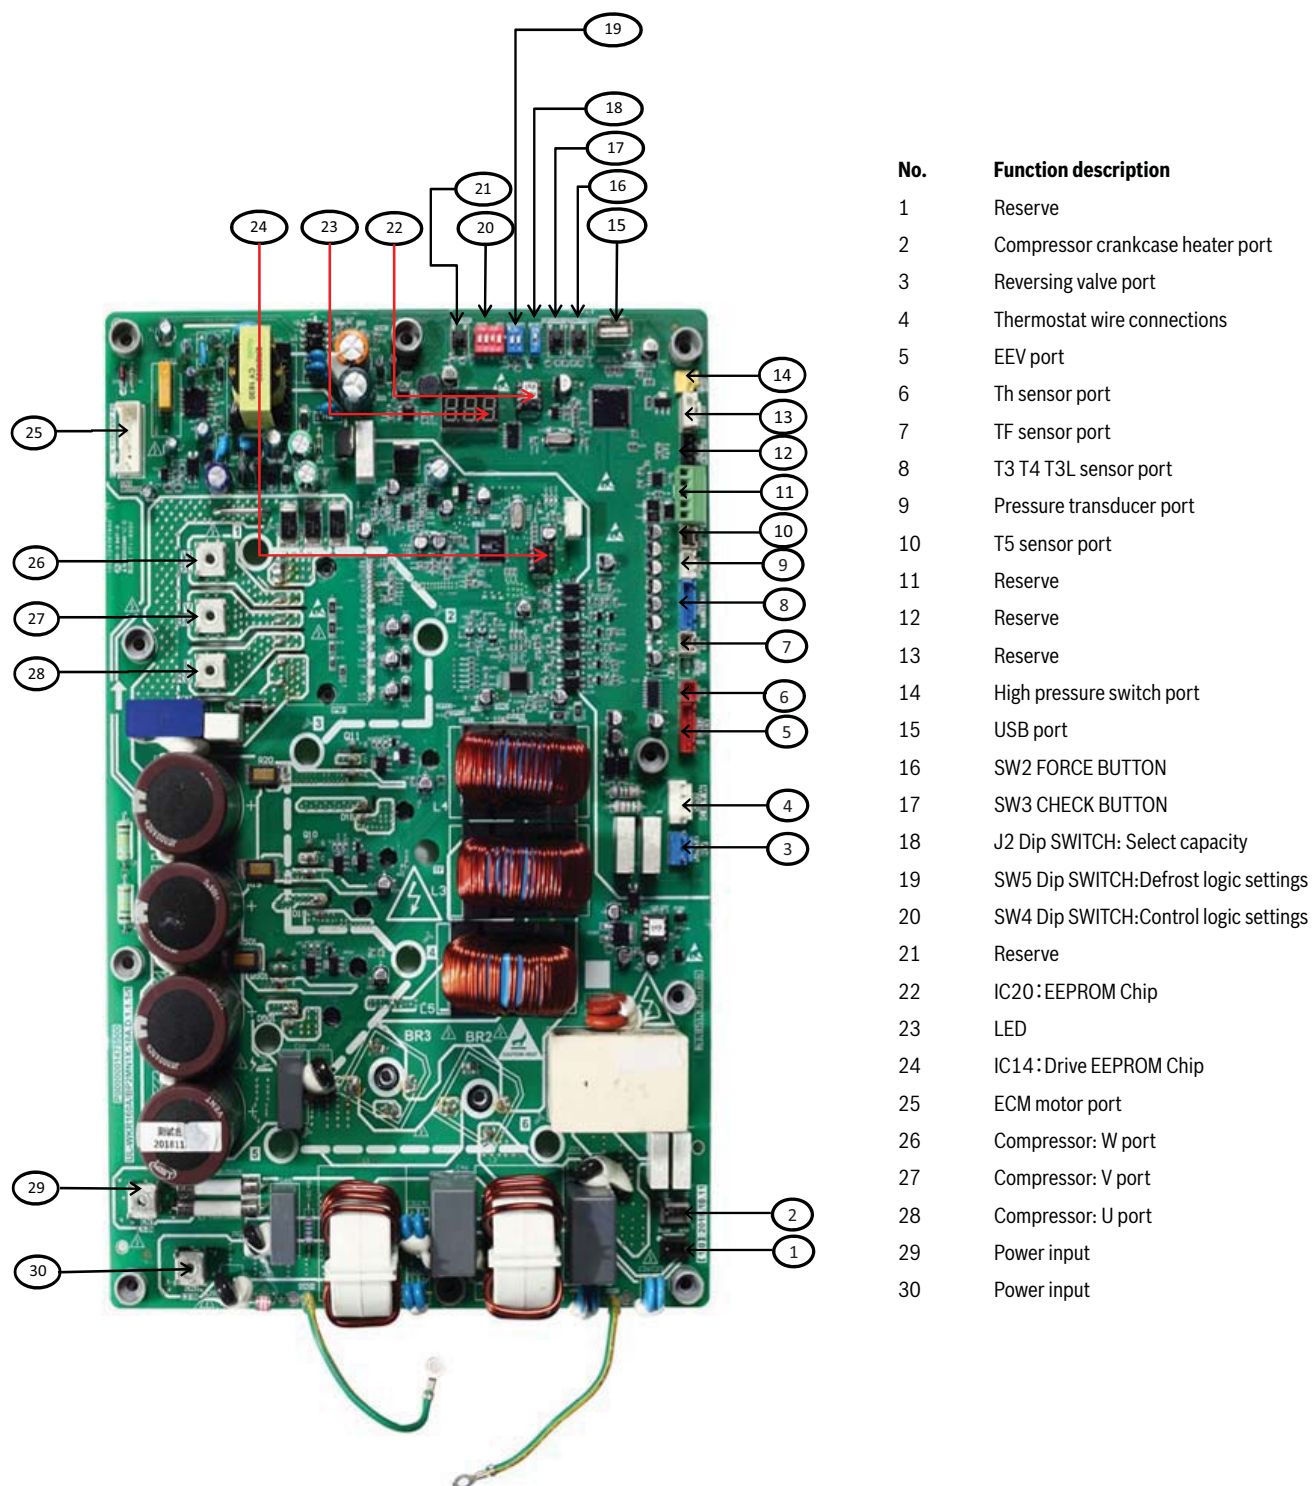

Figure 30
- ▶ To display system parameters, press the "Check" button to index through the series of parameters available. The first time you press the "Check" button, it will display the sequence, and after 1 second it will display the value of the parameter. If you press the "Check" button again, it will display the next sequence. Refer to Figure 30 for check button location on the control board.